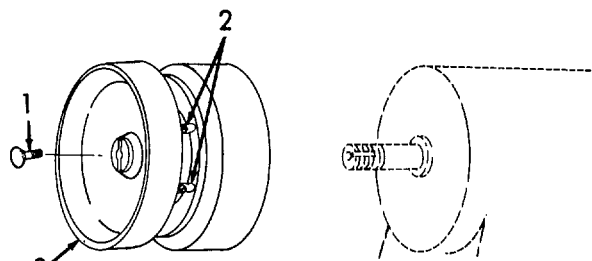

Figure 6-39. Pulley, Removal.
a. Removal (Refer to Figure 6-39).
- (1) Remove pulley capscrew (1).
- (2) Loosen but do not remove two setscrews (2).
- (3) Slide the pulley (3) off the pulley shaft.